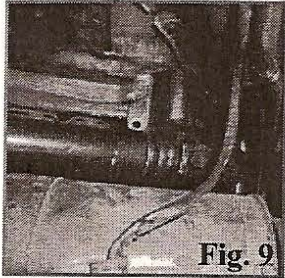
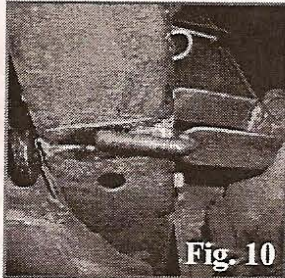
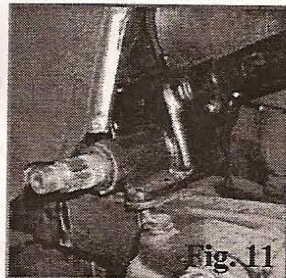

Fig. 9
Fig. 10
Fig. 11
5. Looking down from the engine compartment (Fig. 9), all of the "U" bolt mounting nuts can be seen. Using a 24" extension and 9/16" socket, I removed all four nuts and lock washers. Once all nuts and lock washers were removed, both the front (Fig. 10) and rear "U" bolts were removed. After removing the "U" bolts, I lifted up the steering gear and removed the spacers under the rear of the steering gear at the rear "U" bolt (Fig. 11).